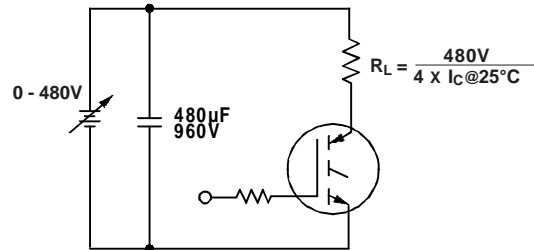

Fig. 13b - Pulsed Collector Current Test Circuit
- ① Repetitive rating; $V_{GE} = 20V$, pulse width limited by max. junction temperature (See fig. 13b).